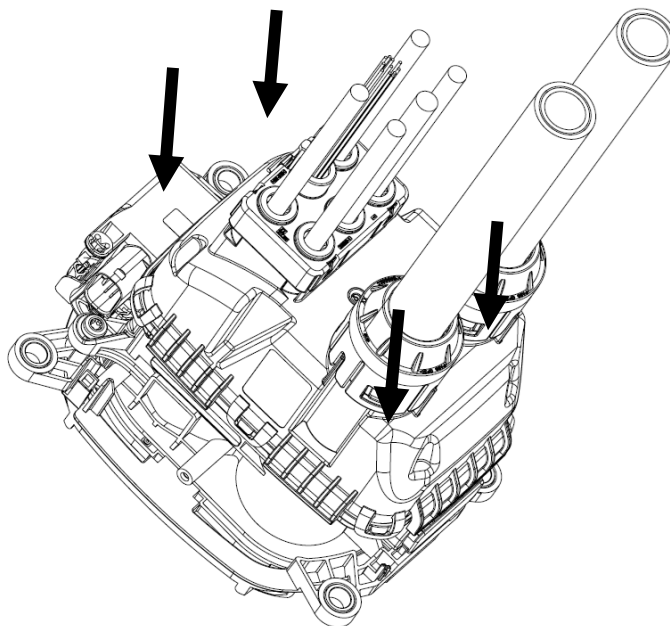
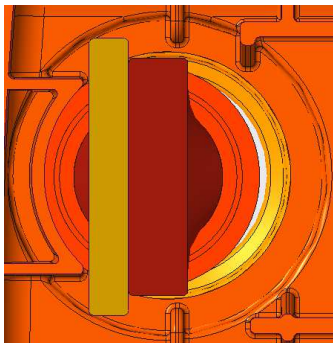

Figure 33
Figure 33a
Mount the COVER, CABLE EXIT, 120 SQMM, 2390858-4 LARGER AC to the CHARGE INLET HSG, COMBO 2, ASSY, 2415865. Ensure that all 6 hooks are correctly engaged. The press force must be applied on the marked locations close to the latches, see Figure 33.
**ATTENTION:** The COVER, CABLE EXIT, CCS2, 120 SQMM, 2390858 needs to be aligned properly over the inlet and pushed vertically into position to make sure the seal slips correctly seated all around (Figure 33).
For the proper alignment, pay attention to the anti-rotation features implemented in the COVER, CABLE EXIT, 120 SQMM, 2390858-4 LARGER AC. So that the PIN, DIA8.0, WELDING 180 DEG, 2390840-1 orientations are dictated by those features. See orientation on Figure 33 and the anti-rotation features on Figure 33a and 33b illustrated.